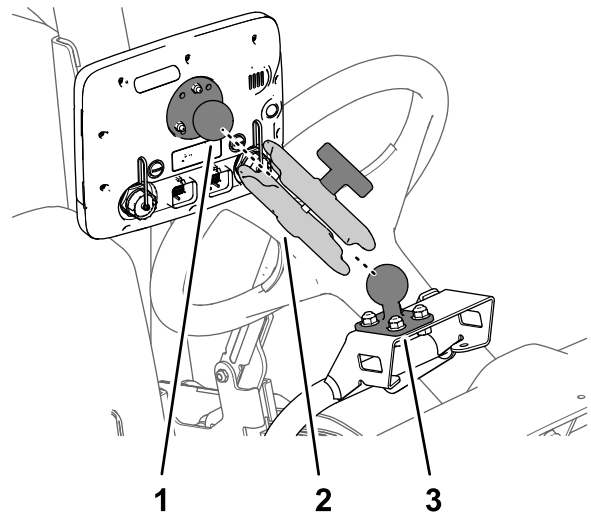

Figure 167
3. Assemble the ball fitting of the monitor and the ball mount on the machine to the monitor arm (Figure 167).
4. Adjust the monitor so that it is viewable from the machine operator's position and tighten the knob of the monitor arm by hand (Figure 167).